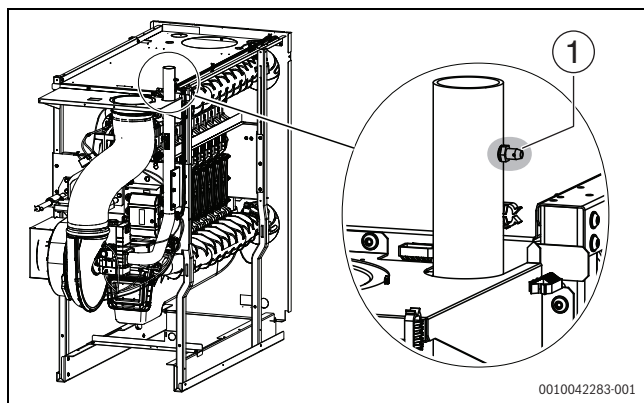

Fig. 34 Venting the gas line
- ▶ Release the locking screw of the gas supply pressure and ventilation test nipple (→ Fig. 34, [1], page 29) by turning it through 2 revolutions.